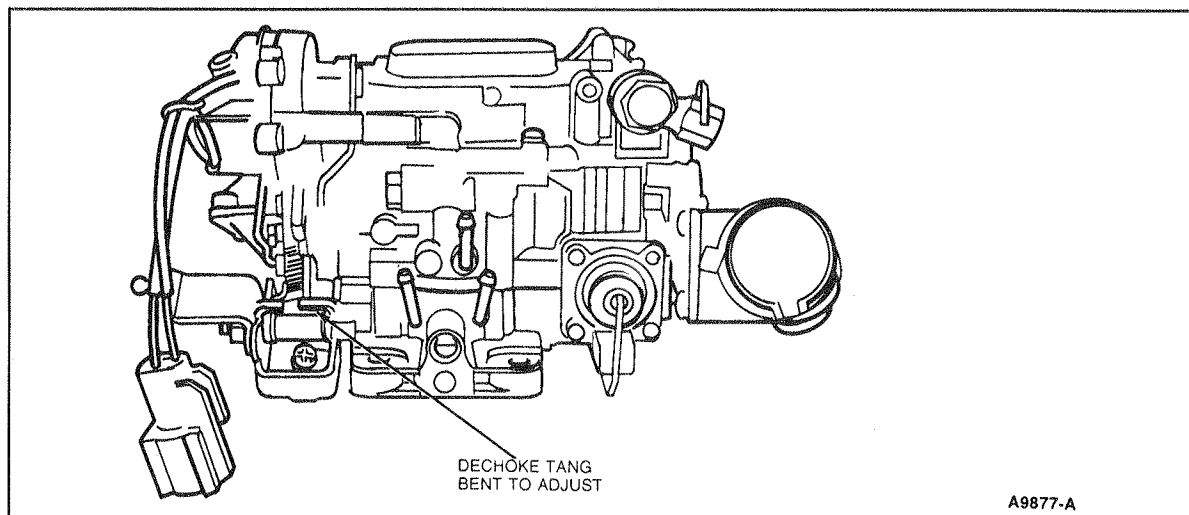

Figure 2 De-Choke
Refer to Figure 2.
3. If the clearance is not within specification, adjust by bending the tang on the throttle lever as shown in Figure 2.